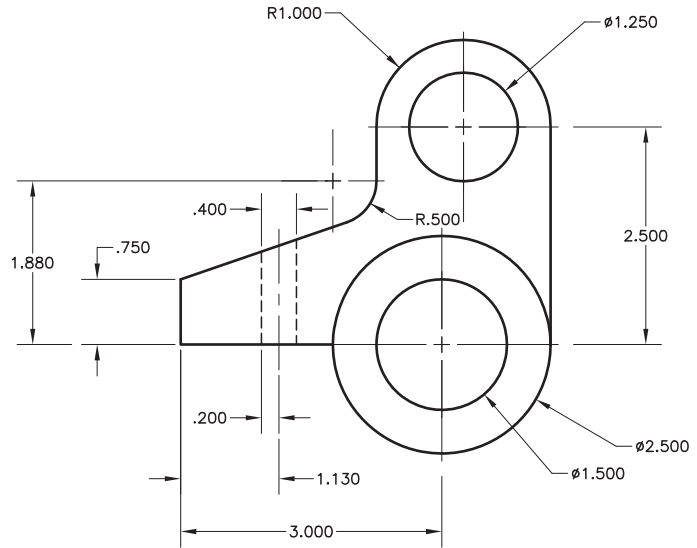

Fig. 29-5
4. Create a new drawing using the **prb29-1.dwt** template file and make the changes shown in Fig. 29-5. Note that the **2.250** diameter is now **2.500**. Stretch the top part of the hinge component upward **.250** units and let the associative dimension text change on its own.